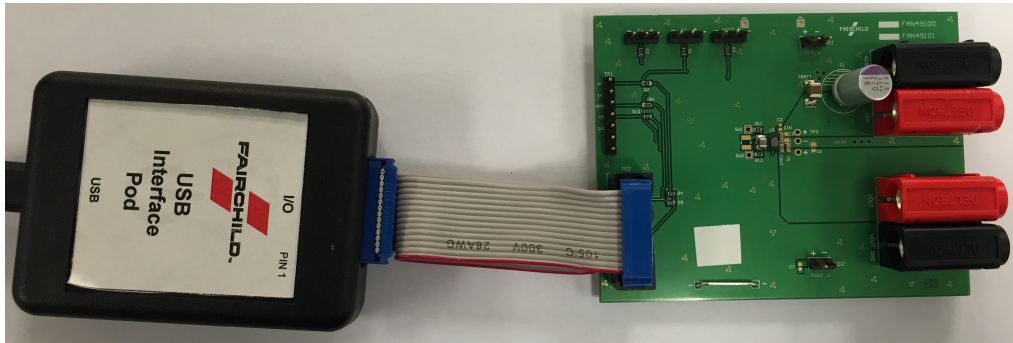

Figure 6. Connection of USB Interface POD to DUT
Connect the USB Interface POD as shown in Figure 6.
- a. Connect provided USB Interface POD with the device under test as shown in Figure 6.